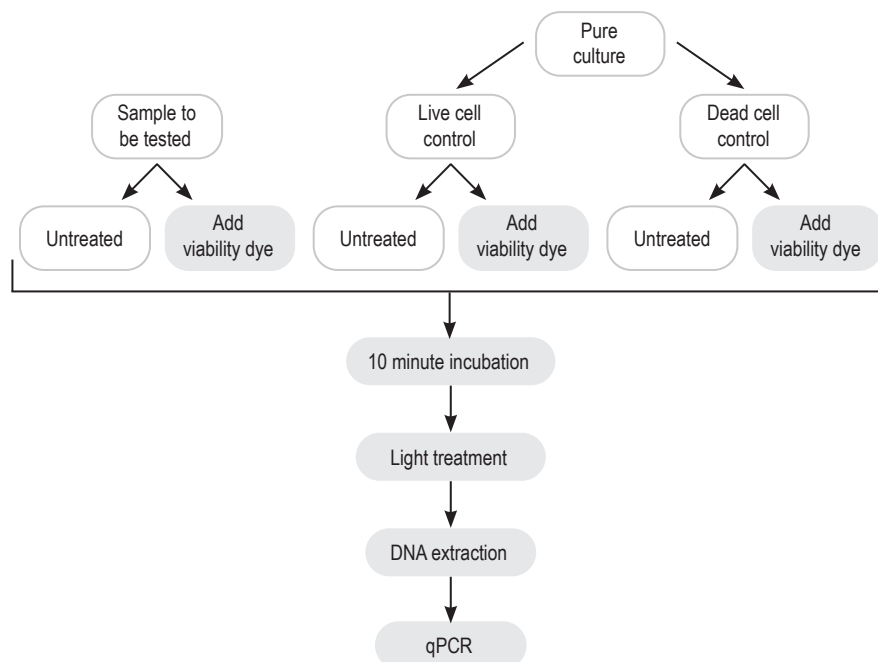

Figure 3. Viability PCR workflow overview, with recommended live and dead cell controls.
- To validate PMA effectiveness in your sample of interest, it is best to perform live cell and dead cell controls, each with and without PMA (Figure 3). The change in Ct (dCt) caused by PMA for each control should be assessed (see “Data Analysis” on page 3).
3. Pipette 400 uL aliquots of bacterial culture into clear microcentrifuge tubes. For each sample you will need one tube for PMA-treated cells and one tube for untreated (no dye added) cells in order to calculate dCt (see Figure 3, “Considerations for viability PCR,” and “Data Analysis” for details).
See Figure 3 for an overview of the procedure. This is a general protocol for treating cultured bacteria with PMA or PMAxx™. We recommended that you first perform a control experiment with live and dead controls for your specific organism.